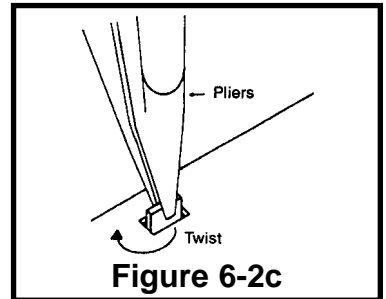

Figure 6-2c
- To anchor the switch in place, grasp the switch tabs with your pliers and give a 1/8 turn as shown in Figure 6-2c.